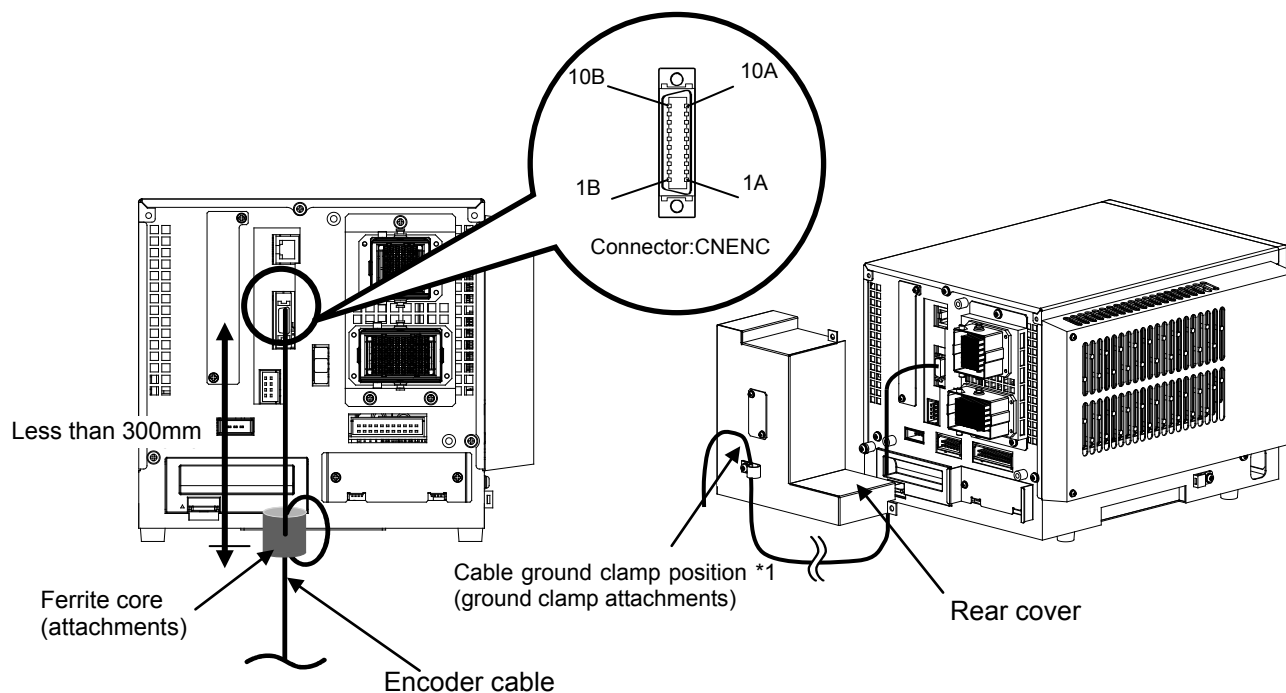

Figure 10-8 Installation of encoder cable (CR1D-700 series)
*CR1D-700 series: "Figure 10-8 Installation of encoder cable (CR1D-700 series) "